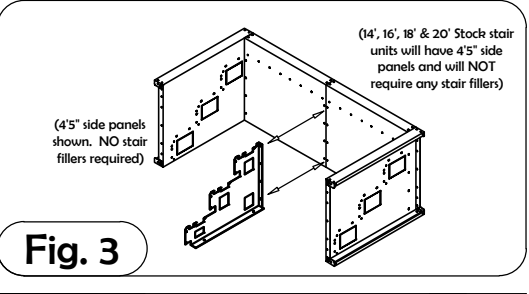

Fig. 3
3. Bolt the bottom step to the left and right stair fillers and side panels assembly (Fig. 3). The riser of the bottom step should be flush with the end of the stair filler.
3. For stair units larger than 8', bolt the straight stair brace to the back stair panels (Fig. 3). For 4', 6' & 8' stair units, no stair brace is required.